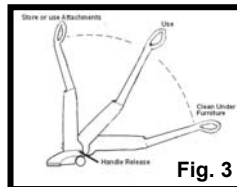

Fig. 3
5. When using the attachments, the vacuum must be in the upright position. (Fig. 3)